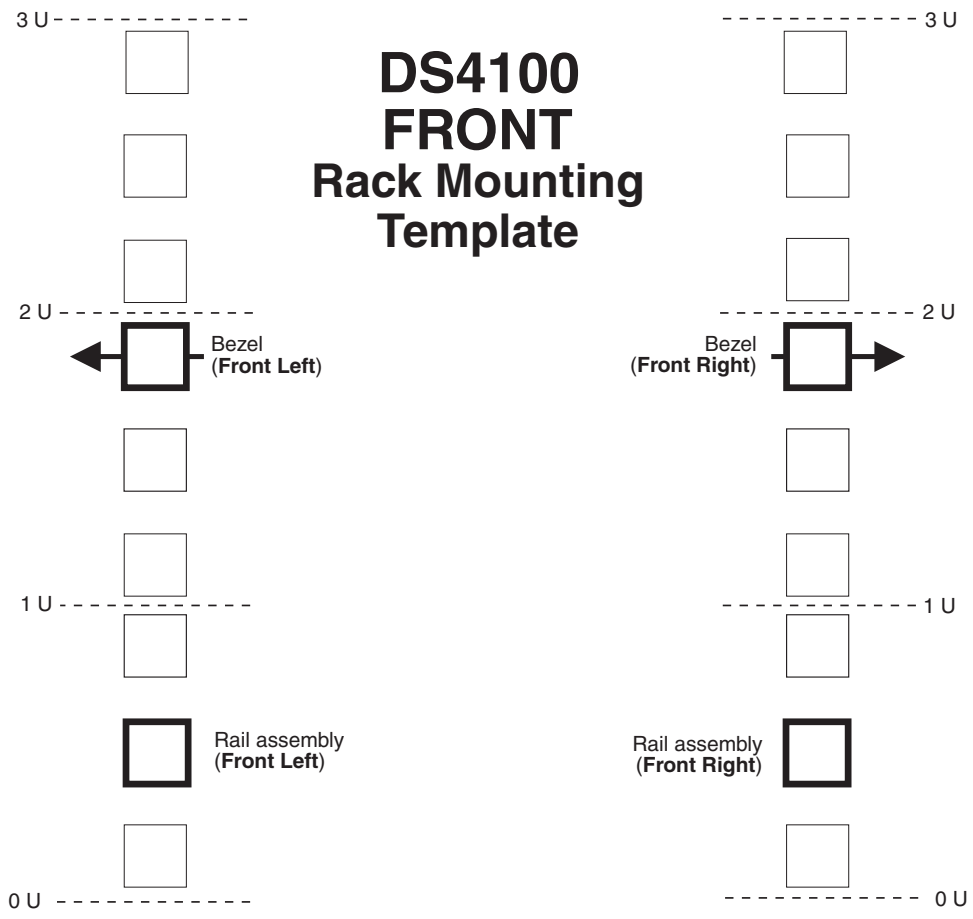
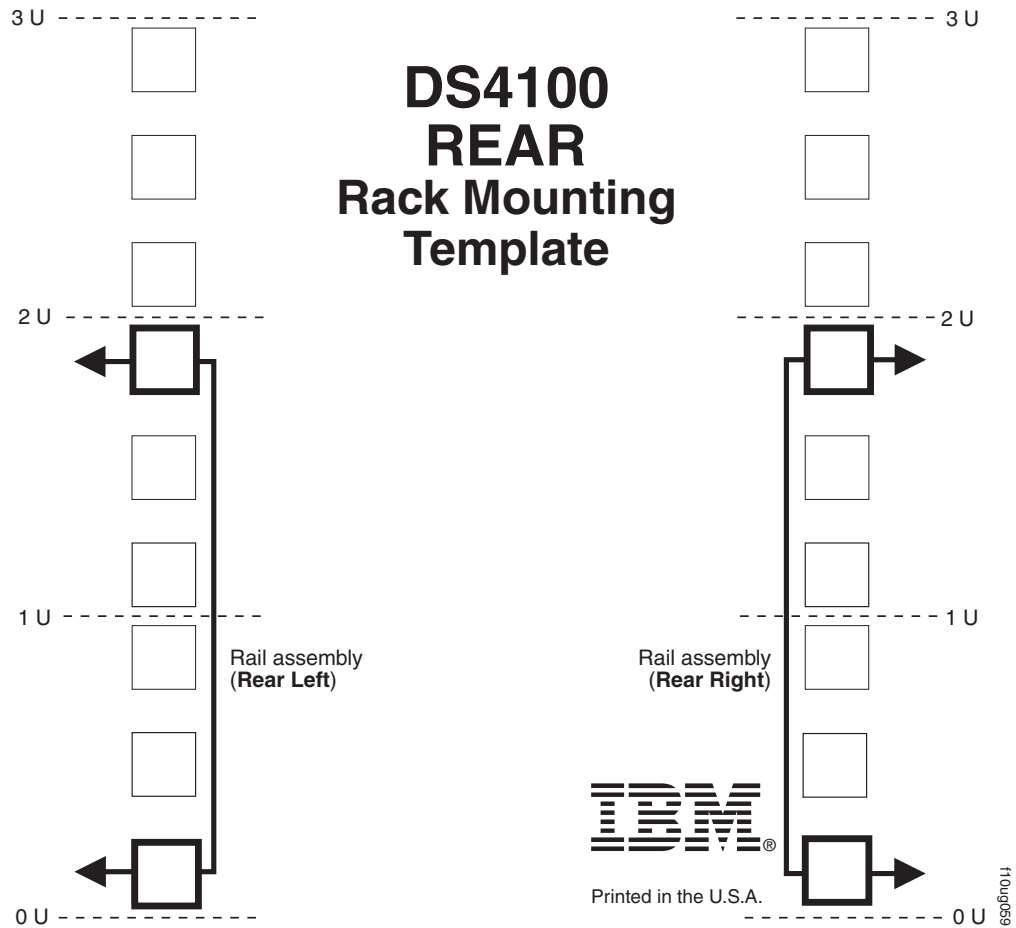

Figure 9. Front rack mounting template
Figure 10. Rear rack mounting template
Use the following templates (Figure 9 on page 21 and Figure 10 on page 22) to identify the proper locations for inserting M6 screws when mounting the support rails and DS4100 to a rack cabinet. The locations for the M6 screws are highlighted in the templates.
Attention: Use the rack mounting template provided in Figure 9 on page 21 and Figure 10 on page 22 to locate the proper rack mounting holes for installing the support rails into the rack cabinet.
- Hold the front of the rail against the inside of the right rack-mounting flange and loosely tighten the lower M6 screw (**4**). See Figure 9 on page 21 for the location for this screw.
- From the rear of the rack, thread and tighten two M6 screws (**1**) (see Figure 10 on page 22 for the location for these screws). From the front of the rack cabinet, finish tightening the front M6 screw (**4**).